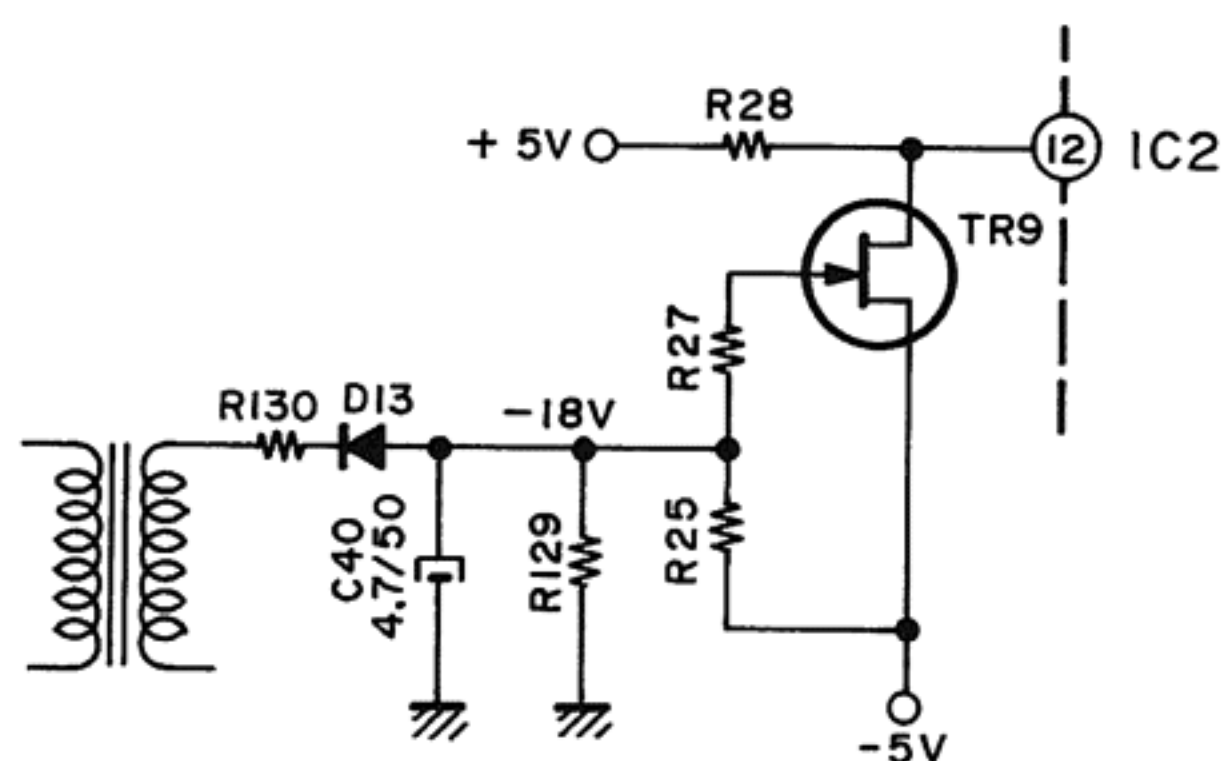
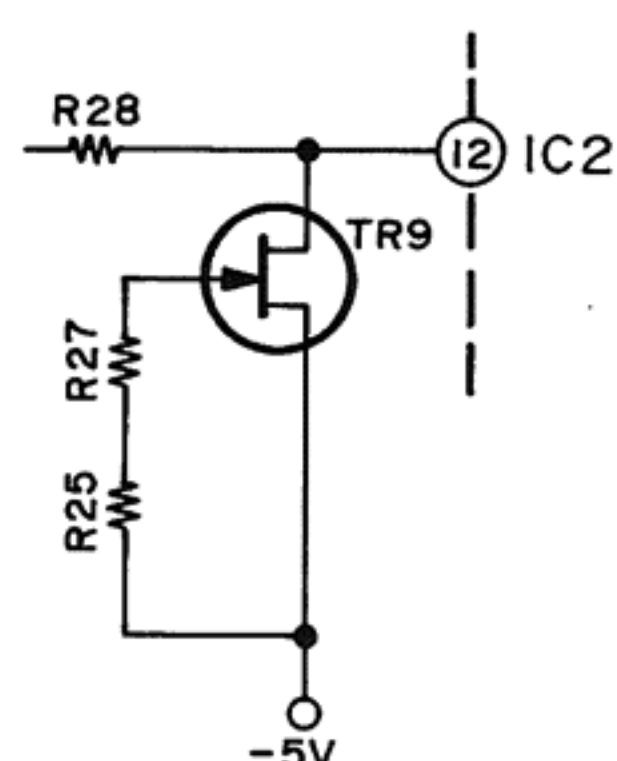

Fig. 21
Fig. 22
- 3) When the power is supplied, TR9 connected to IC2 ⑫ is off (Refer to Fig. 21). When the power is turned off, TR9 is immediately turned on, because the capacity of C40 is very small (Refer to Fig. 22). Consequently, -5V is supplied to IC2 ⑫ and IC2 SW D is not turned on. These arrangements prevent the CPU from functioning erroneously when the power is turned on and off and the record is prevented from being scratched by the needle when the power supply stops.